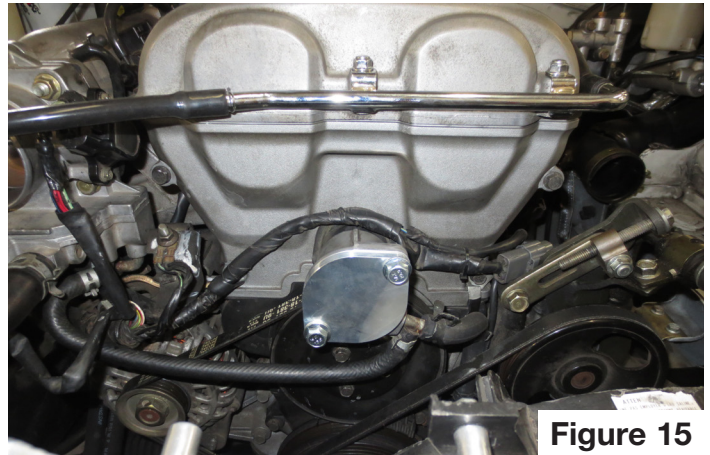

Figure 15
- 15) Apply a new thermostat gasket to the provided block off plate and install in the former thermostat housing location using the provided M8 bolts. Torque to 16 ft.-lbs. **Figure 15.**